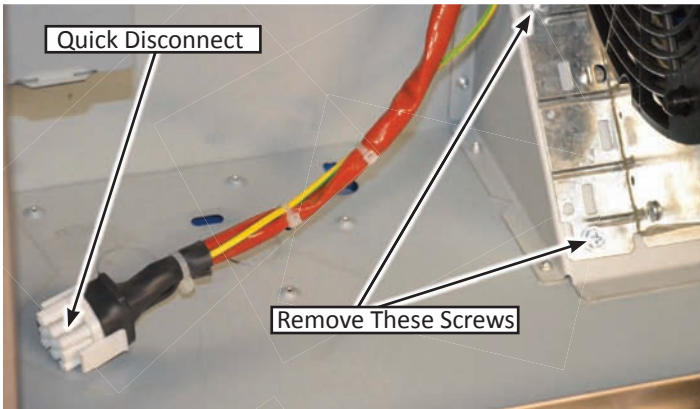

Figure 1
- d. Remove (4) hex head phillips screws from the 2 motor mount brackets, see figures 1 and 2.